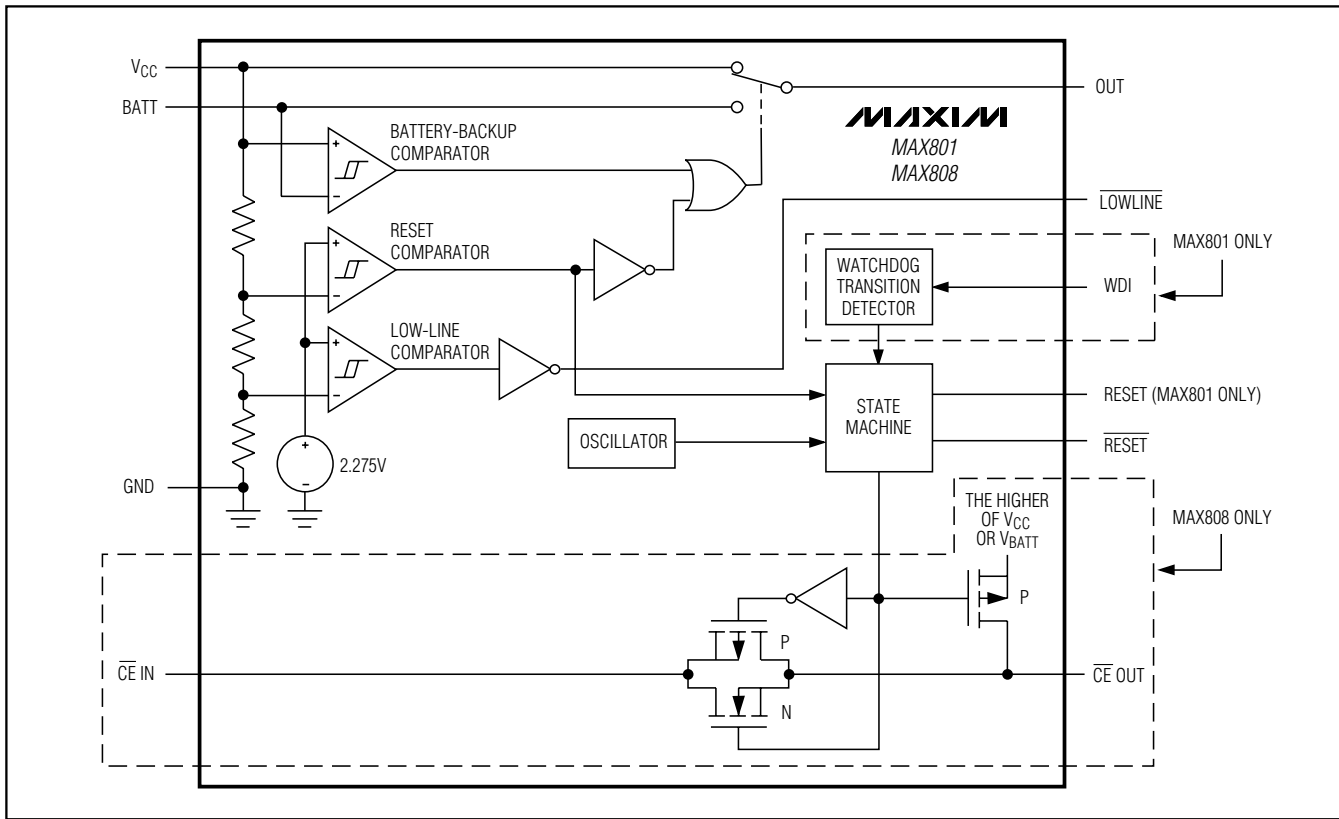

Figure 1. Functional Diagram
The MAX801/MAX808 microprocessor ( $\mu$ P) supervisory circuits provide power-supply monitoring and backup-battery switchover in  $\mu$ P systems. The MAX801 also provides program-execution watchdog functions (Figure 1). Use of BiCMOS technology results in an improved, 1.5% reset-threshold precision while keeping supply currents typically at 68 $\mu$ A (48 $\mu$ A for the MAX808). The MAX801/MAX808 are intended for battery-powered applications that require high reset-threshold precision, allowing a wide power-supply operating range while preventing the system from operating below its specified voltage range.
The MAX808 provides internal gating of chip-enable (CE) signals to prevent erroneous data from corrupting CMOS RAM in the event of a power failure. During normal operation, the CE gate is enabled and passes all CE transitions. When reset is asserted, this path becomes disabled, preventing erroneous data from corrupting the CMOS RAM. The MAX808 uses a series transmission gate from the chip-enable input ( $\overline{\text{CE}} \text{ IN}$ ) to the chip-enable output ( $\overline{\text{CE}} \text{ OUT}$ ) (Figure 1). The 8ns max chip-enable propagation from  $\overline{\text{CE}} \text{ IN}$  to  $\overline{\text{CE}} \text{ OUT}$  enables the MAX808 to be used with most  $\mu$ Ps.